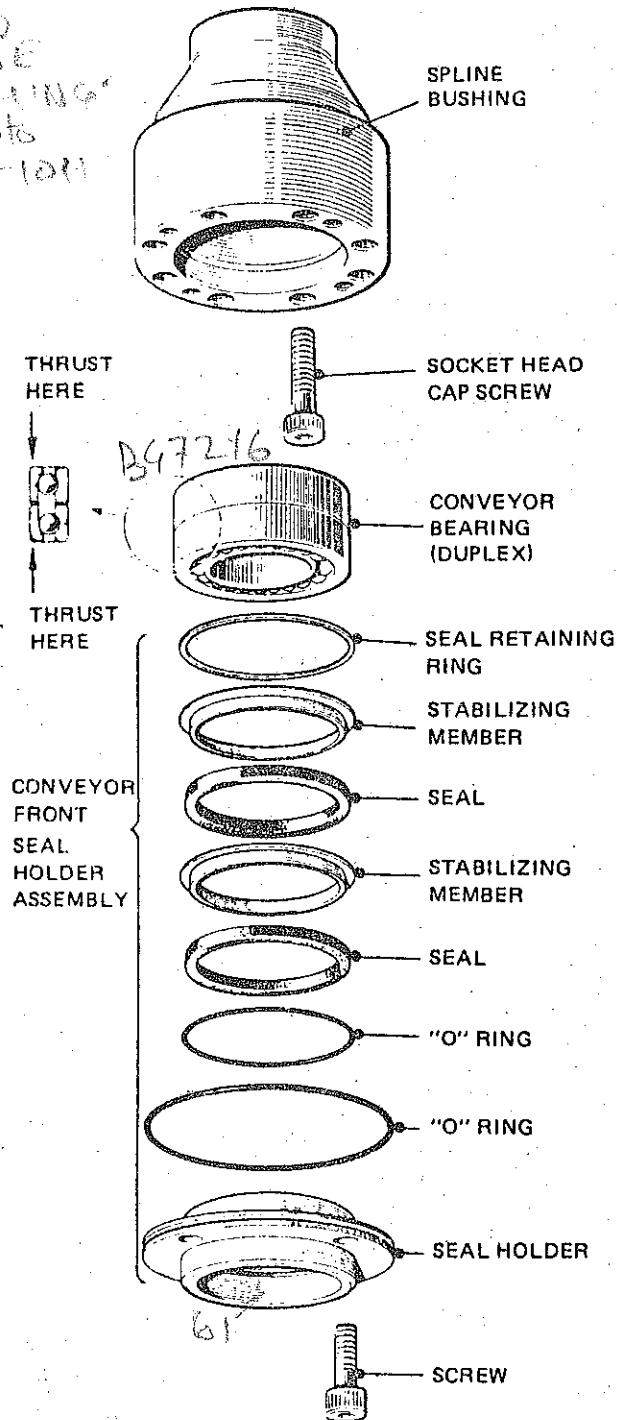

Figure 11. Front Conveyor Insert Assembly
7. Removal and Disassembly of Front Conveyor Insert (Gear Box End) (figure 11)
- (i) Heat the spline bushing to 200°F (93°C) in clean oil. Install the bearings in the heated housing as in Figure 11.